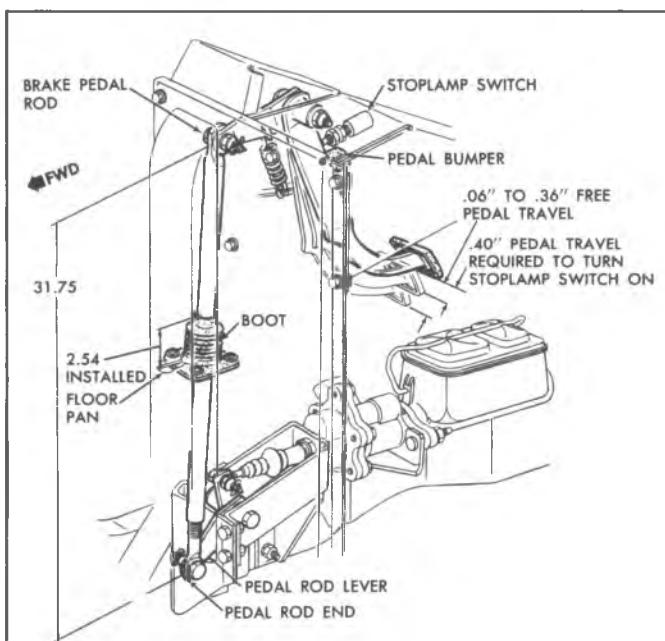

Fig. 94--Brake Pedal and Stop Lamp Adjustment--P30(32) Model
NOTE: Pre-assembled brake pedal rod assembly should be adjusted to dimension shown in Figure 94.
2. Adjust free pedal travel by turning the brake pedal rod end. Free pedal travel should be .06" to .36" (fig. 94).
Replacement (Fig. 94)
11. Fasten the boot to the floorpan and compress the boot to 2.54" installed height; tighten the boot screws to 13-18 in. lbs. Refer to Figure 94.